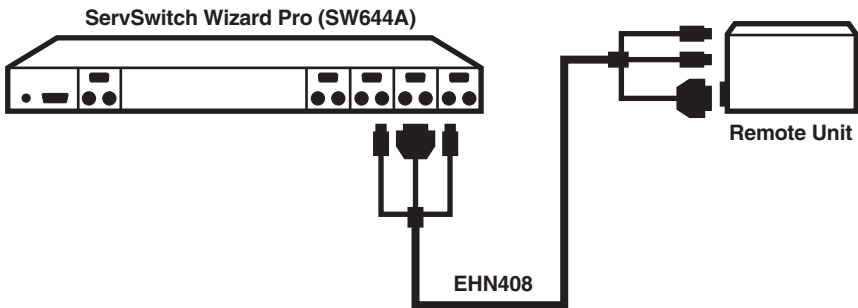

Figure 6-6. Attaching a KVM switch with multiple CPU-port connectors to the user port on an Extender Unit.
- If you're using one of our three-to-three bonded extension cables, run the cable's video strand between the two video/monitor connectors, the cable's keyboard strand between the two keyboard connectors, and the cable's mouse strand between the two mouse connectors, as shown in Figure 6-6. (The keyboard and mouse connectors on the bonded cable have different colors and icon labels for easy identification.)